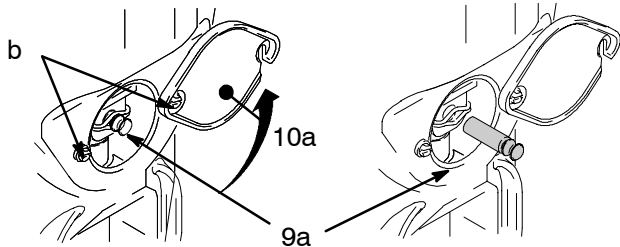

Fig. 18 9573A
1. Flush pump (13).
3. Fig. 18. Loosen two screws (10b) and rotate cover (10a).
2. Fig. 18. Install pump pin (9a). Verify retainer spring (9b) is in groove of pump pin.
8. Fig. 18. Rotate cover (10a); tighten screws (10b).